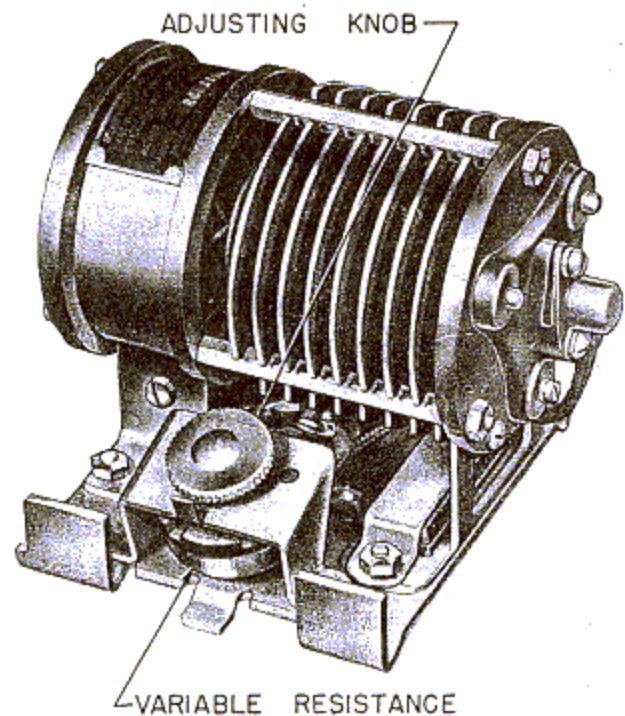

Figure 255—Voltage Regulator
f. The voltmeter should indicate 28.0 volts. If it does not, adjust the voltage regulator to give a reading of 28.0 on the voltmeter by turning the knurled adjusting knob. Turning the knob to the right will increase the voltage, and turning it to the left will decrease it. (See figure 255.)